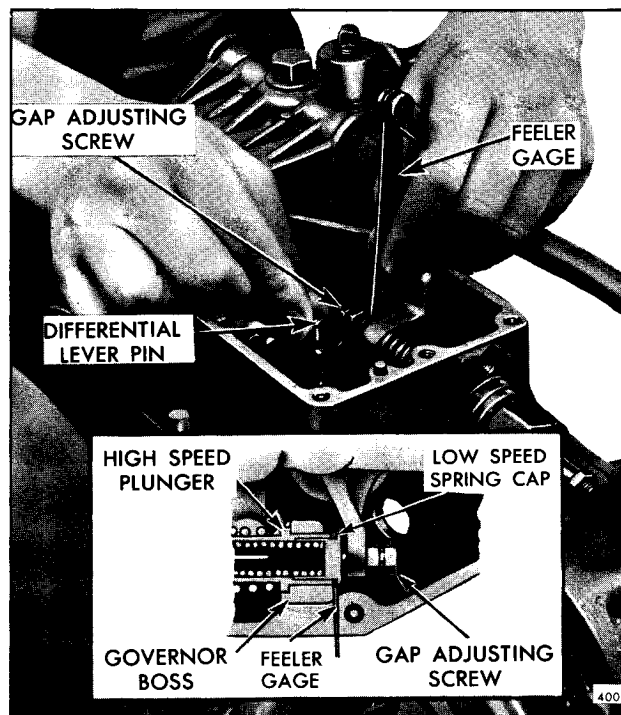

Fig. 2 - Checking Governor Gap
6. Check the gap between the low speed spring cap and the high speed spring plunger with a .0015" feeler gage. If the gap setting is incorrect, reset the gap adjusting screw (Fig. 2).